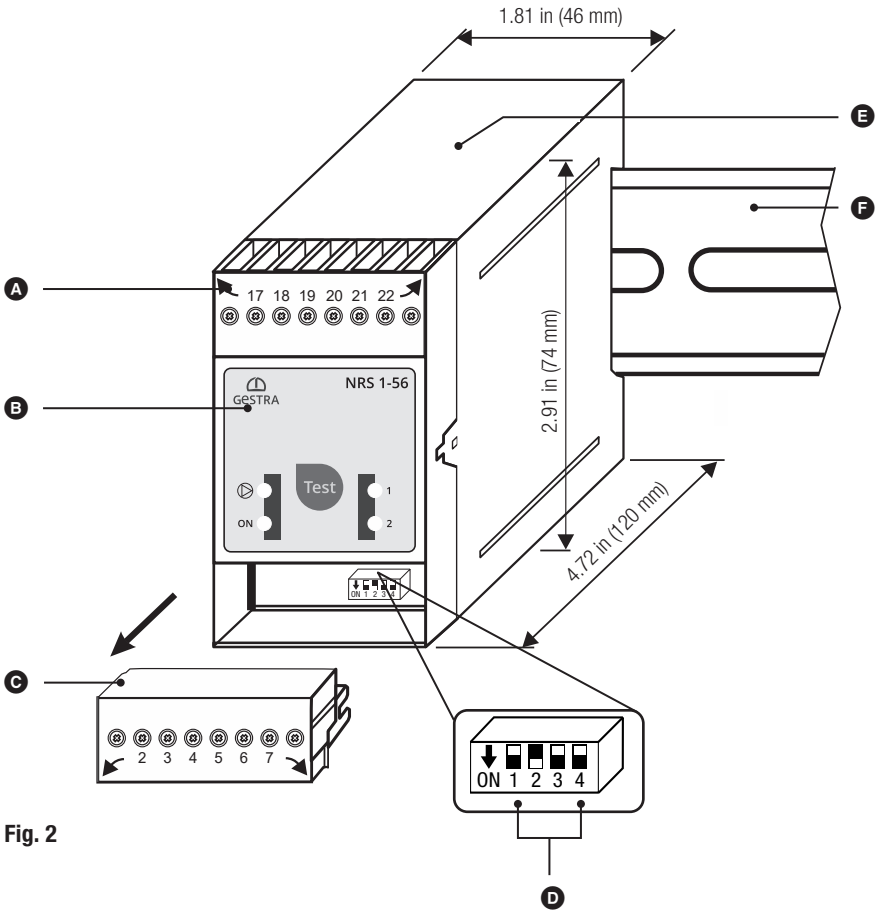

Fig. 2
The sensitivity and function are determined by code switch **D** (see **Fig. 2**). To make changes, you can access the code switch as follows:
3. Set code switch **D** (see **Fig. 2**) as desired.